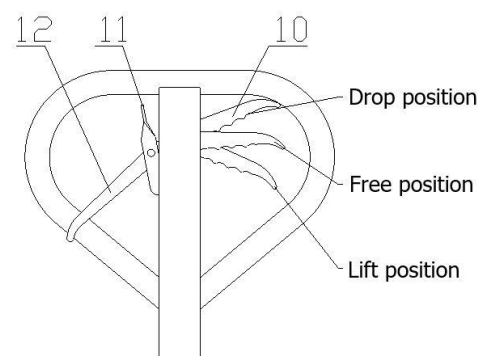

Fig. 5
4.1 After the truck has been assembled, try to rock the handle and operate different positions of the control handle knob (10) to examine lift, free and drop positions and check that they work normally. See fig. 5.
5.3 See fig. 5, when the control handle knob (10) is placed to "lift position", the truck will be in a lift state. At this time, if you rock the handle, the truck forks will lift.
5.4 See fig. 5, when the control handle knob (10) is placed to "free position", the truck will be at travel mode. At this time, if you rock the handle, the truck will neither lift or lower. You can use the truck to move the cargo.
5.5 See fig. 5, when the control handle knob (10) is placed to "drop position", the truck forks will lower automatically. Be careful when lowering the load! See also item 13.2 related.